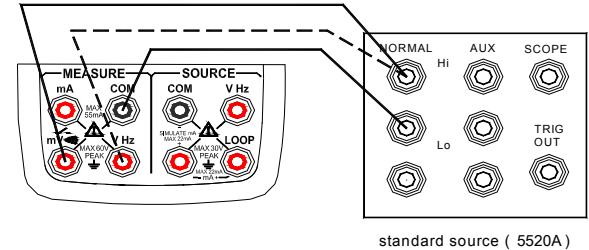

Figure 16 Calibrating DC voltage and frequency
Step 3: Connect the lead cables to the output terminals of the standard source as shown in Figure16.
Step 3: Connect the lead cables to the output terminals of the standard source as shown in Figure 16.